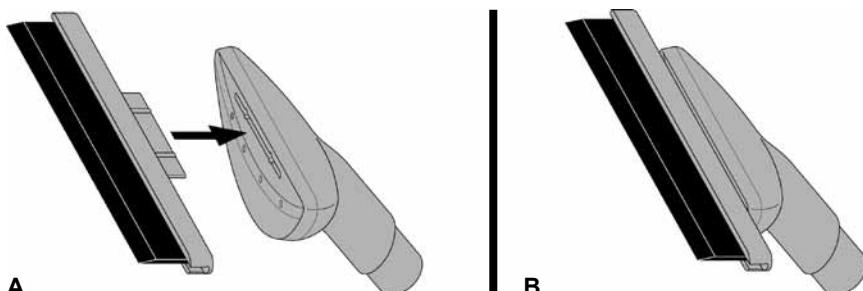

FIGURE 6
1. Align Squeegee with Fabric Nozzle as shown (FIGURE 6-A).
2. Insert tab on Squeegee into slot on face of Fabric Nozzle (FIGURE 6-B). Press in until secure.